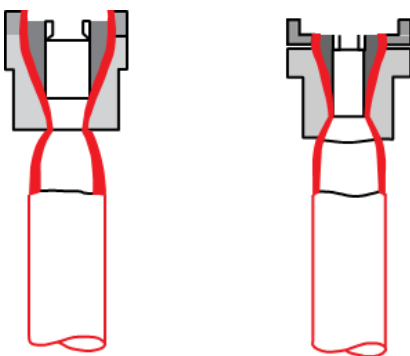

Fig. 6: Tube swelling versus die design and schematic presentation of swell.
- The lower the melt temperature, the greater the swell (depending on the die geometry, see Fig. 6).